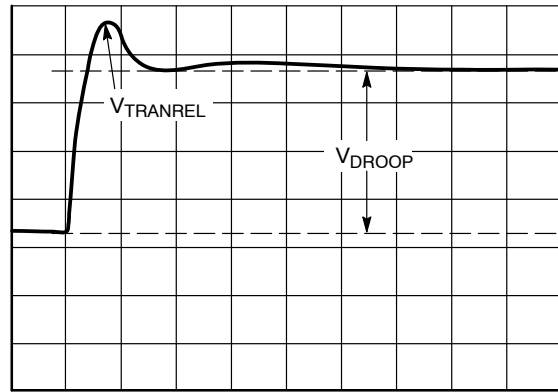

**Figure 36. Transient Setting Waveform, Load Step**
1. With the dynamic load set at its maximum step size, expand the scope time scale to 2  $\mu\text{s}/\text{div}$  to 5  $\mu\text{s}/\text{div}$ . This results in a waveform that may have two overshoots and one minor undershoot before achieving the final desired value after  $V_{\text{DROOP}}$  (see Figure 36).